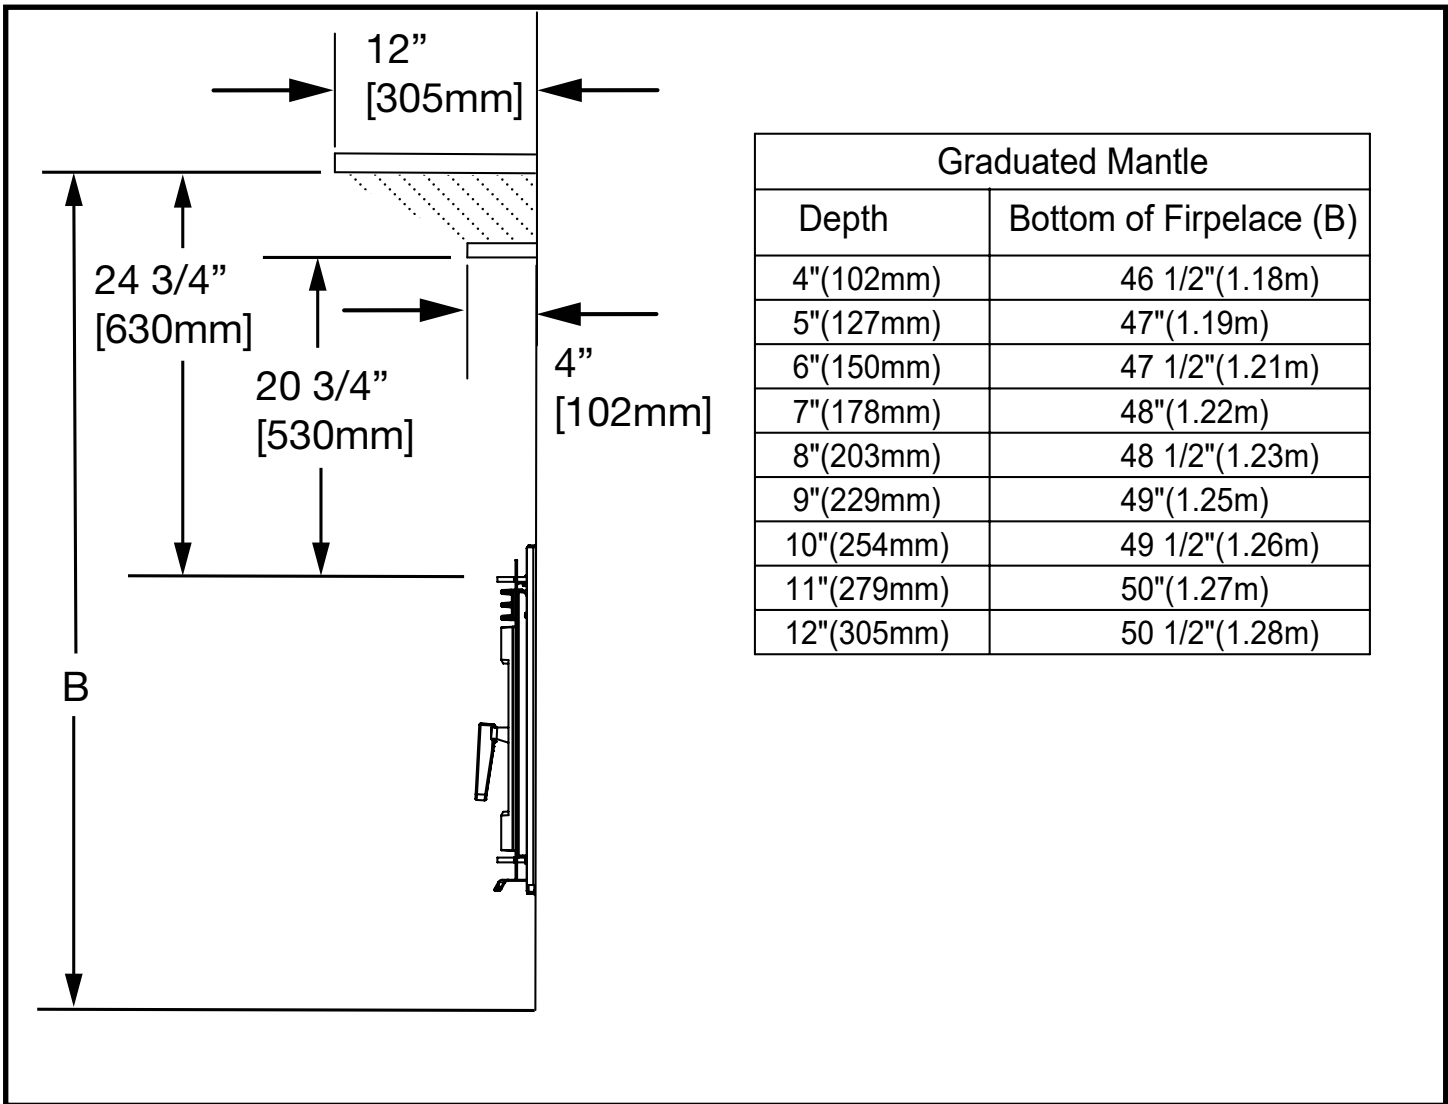

Figure 27: FP16 LE Mantle Clearance Chart.
- Above the Heat Exchanger's Air Deflector up to a minimum of "Figure 27: FP16 LE Mantle Clearance Chart." on page 28, depending on depth.
3. To access/view the rating label, gently pull the cable attached to the rating label plate and lift the plate free of the slot. Figure 27.